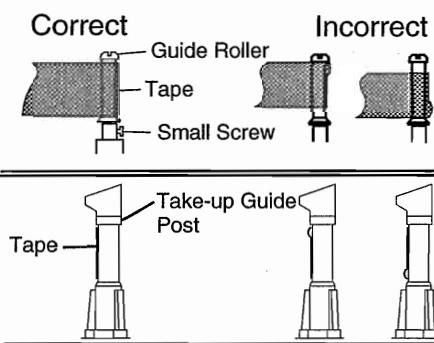

Fig. M5
**Note:** Beneath each Guide Roller, there is a small screw. (Refer to Fig. M5.) This screw works